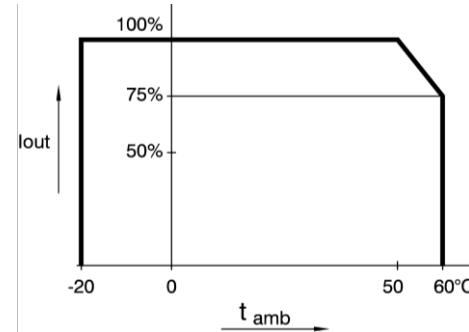

Figure 6.10: Operating temperature ranges.
- At full power, the operating temperature range is –20 to +50 °C. From 50 to 60 °C the output current (either positive or negative) has to be derated linearly to 75% at 60 °C, see Figure 6.10. These temperatures hold for normal operation, i.e. the air intakes & air outlets on the left and right side must be free.